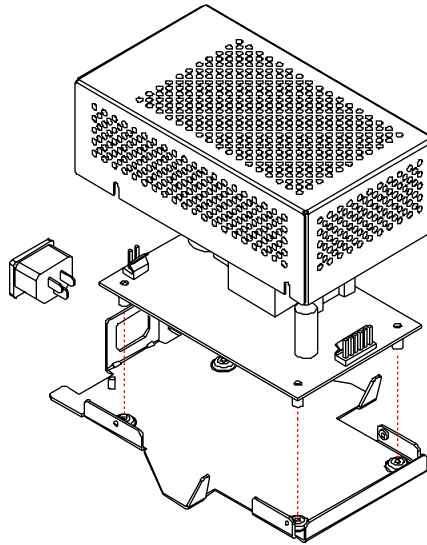

Figure 5-18. Power Supply Assembly.
15. Loosen the 4 screws and slip the Power Supply cover off of the Power Supply base. See Figure 5-18.